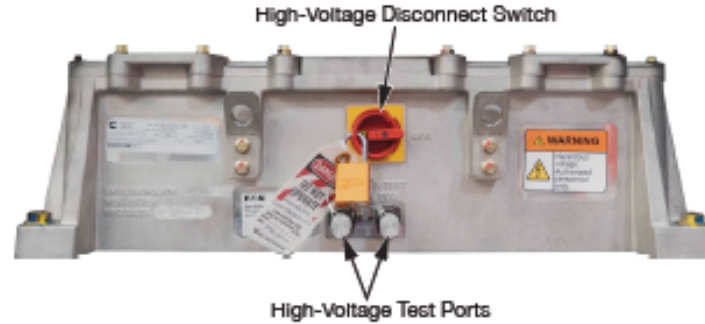

Figure 1-11, Locked and Tagged High-Voltage DC Junction Box
- Apply the LOTO lock to the HV Disconnect Switch (Figure 1-11) to lock the switch in the "OFF" position.